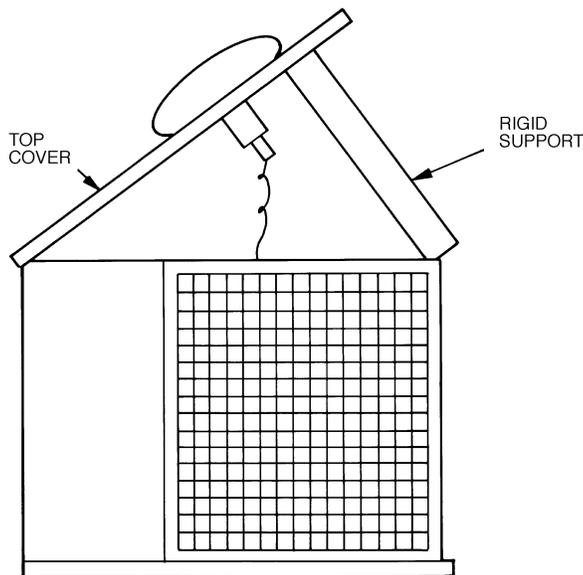

Fig. 24 — Pivot and Support Top Cover
2. Remove screws holding rear corner posts and top cover in place. Pivot top cover up 12 to 18 in. and support with a board or other adequate rigid support. See Fig. 24.